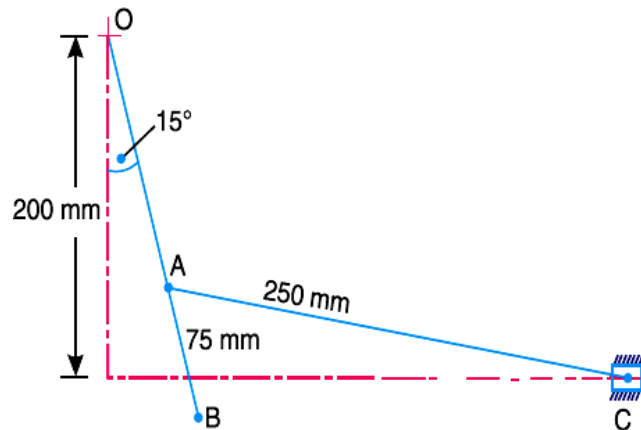

Fig: 6
- b) The oscillating link OAB of a mechanism, as shown in the fig: 6, is pivoted at O and is moving at 90 r.p.m. anticlockwise. If  $OA = 150$  mm ;  $AB = 75$  mm, and  $AC = 250$  mm, calculate: [9M]